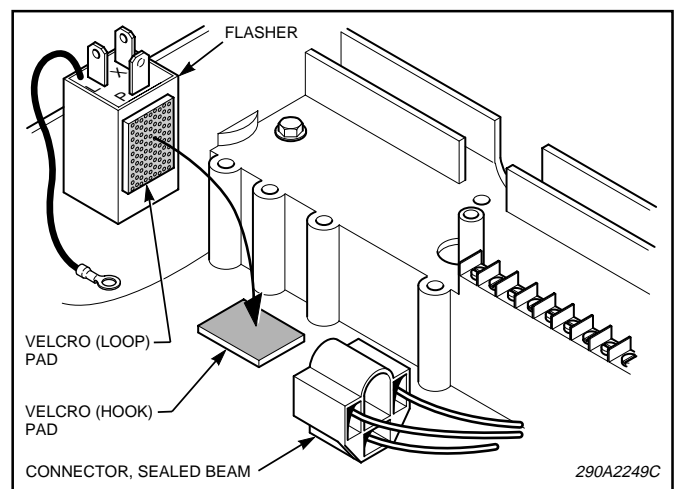

Figure 3.
- See figure 3. Remove the backing from the velcro loop pad and affix the pad to the flasher. Remove the backing from the velcro hook pad and affix the pad to the lightbar housing as shown in figure 3.